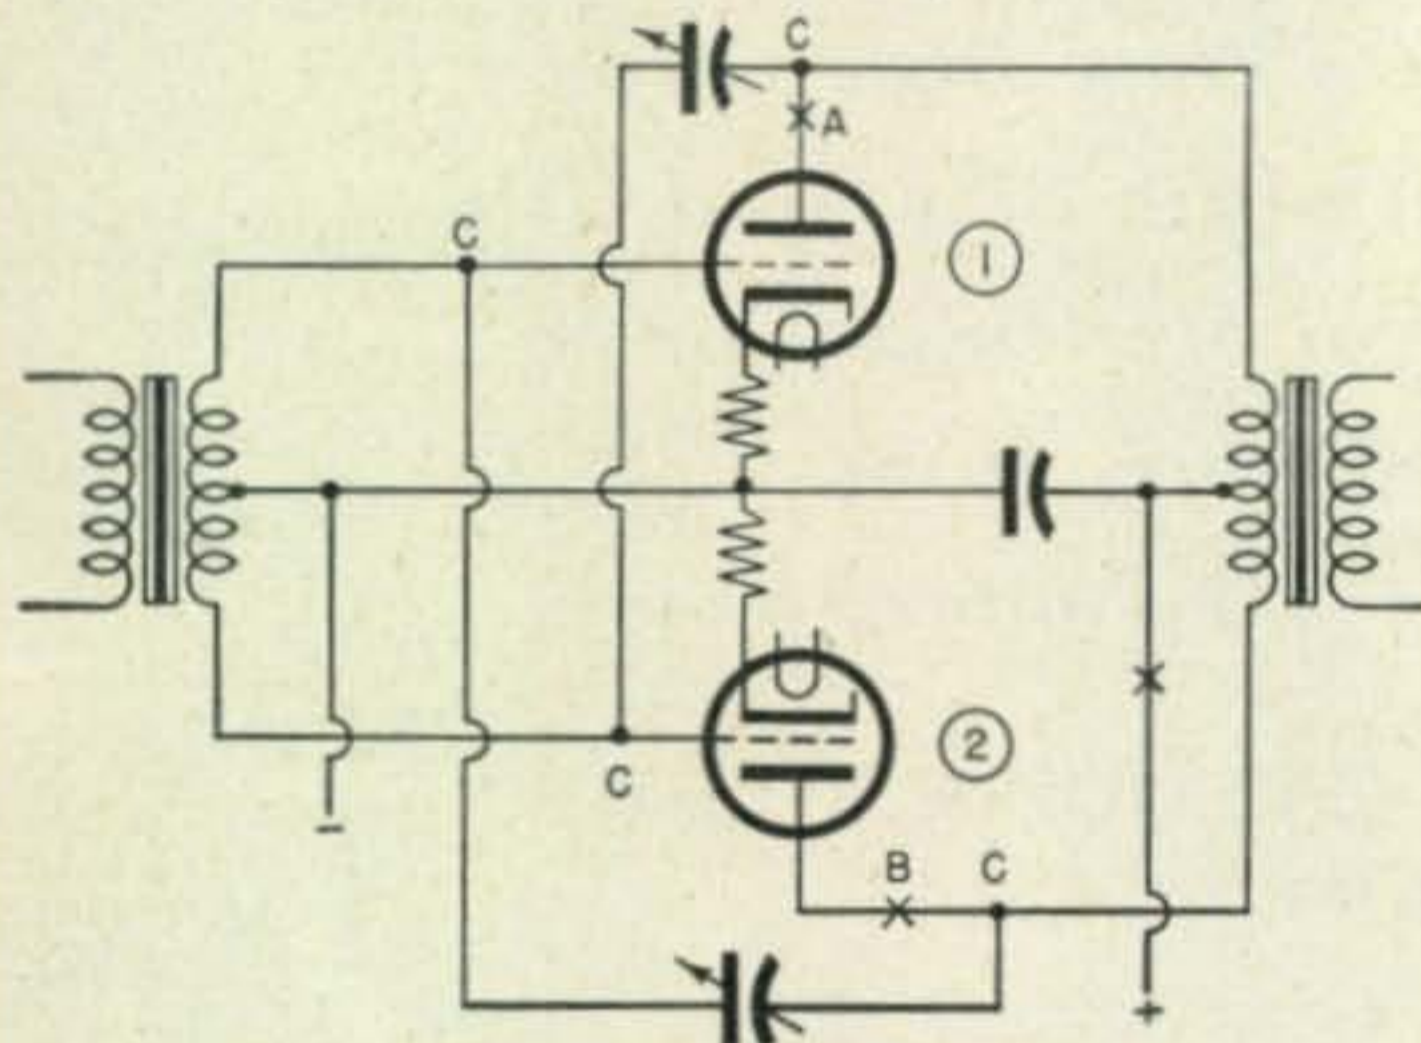

Figure 3
This type of oscillation can be eliminated in exactly the same manner that similar oscillations are controlled in the power stages of radio transmitters—that is by neutralization. Diagram *Fig. 3* shows in schematic form a neutralized push-pull amplifier. Neutralization is accomplished by small cross-connected variable capacitors. The neutralization procedure is as follows:
2. Connect a small variable capacitor having a maximum capacitance slightly larger than the grid-to-plate capacitance of the tube between point C and the grid of tube 2 as shown in *Fig. 3*.